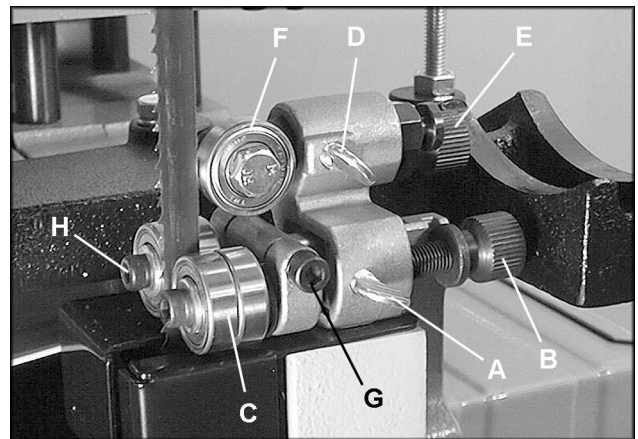

Fig. 29
3. Loosen thumb screw (A, Fig. 29) and move guide block by turning knob (B, Fig. 29) so that the front of the guide wheels (C, Fig. 29) are just behind the gullet (curved area at base of tooth) of the blade.
4. Tighten thumb screw (A, Fig. 29).
5. Loosen thumb screw (D, Fig. 29) and turn knob (E, Fig. 29) to move the support bearing (F, Fig. 29) in or out until the bearing is approximately 1/64" behind the blade. A simple way to set this distance is to place a piece of paper or a dollar bill between the support bearing and the blade.
6. Tighten thumb screw (D, Fig. 29).